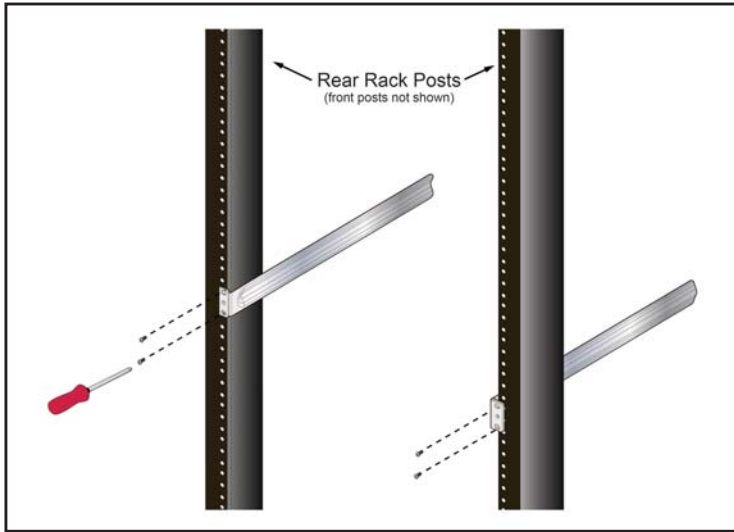

Figure 3-11: Attaching the Rails, as viewed from Rear of Rack
- Step 2** Attach the rails to the rear rack posts, as shown in Figure 3-11 on page 12.